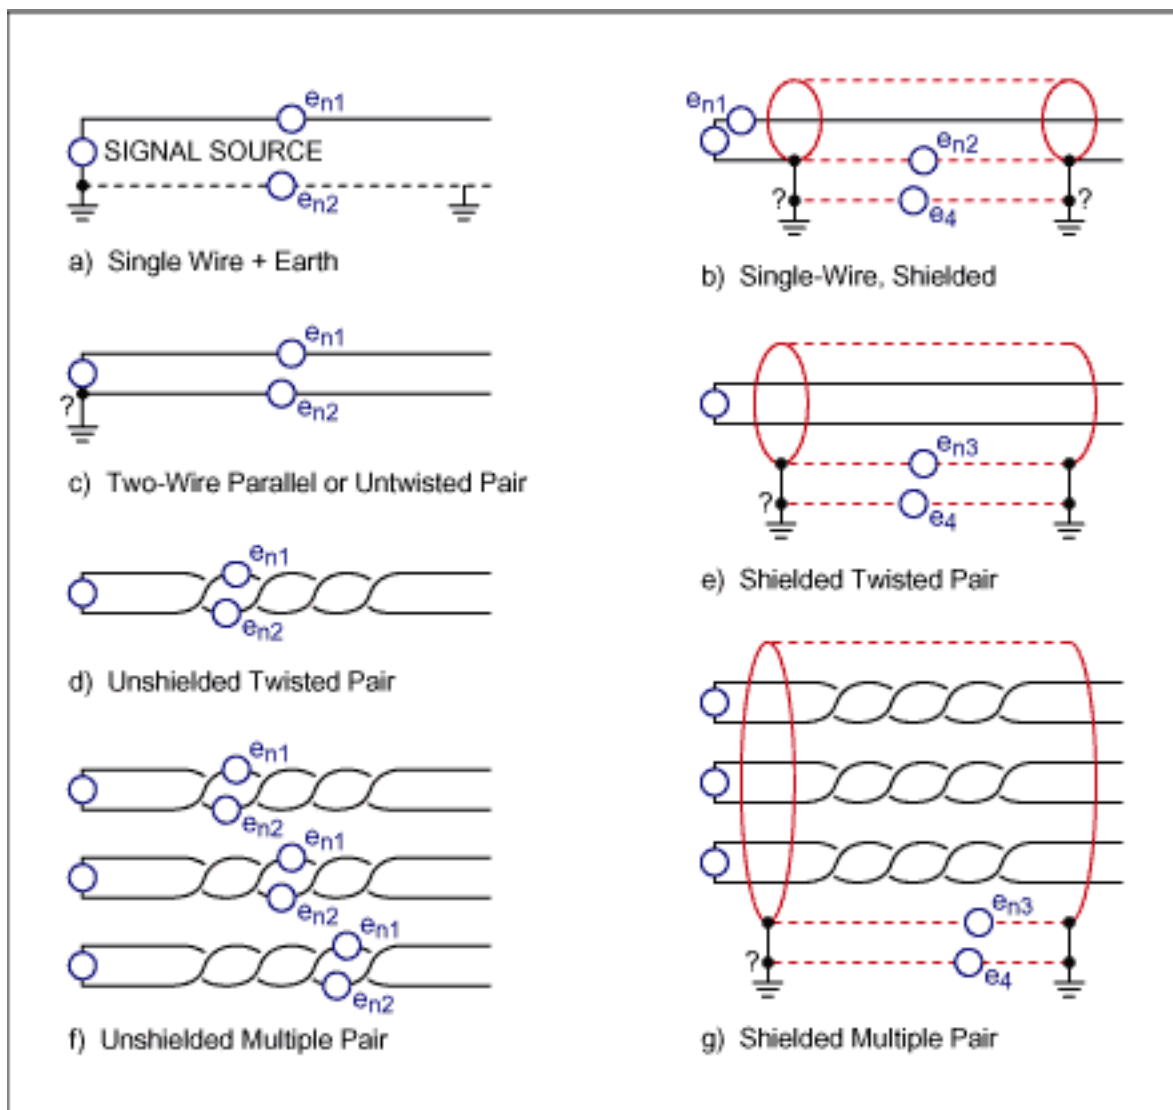

Figure 2. These transmission-cable configurations show the locations of possible noise sources.
Noise signals can appear in a cable for several reasons: capacitive coupling of nearby electric fields (E); inductive coupling of local magnetic fields (M); electromagnetic coupling of radio signals in space (EM); and conduction through intentional or sneak circuit paths (C). The coupled signal appears as an additional signal in series with the line or lines (**Figure 2**). **Table 2** lists the type and origin of potential noise sources in cables. Twisted-pair lines intercept coupled signals equally, so the incident signals appear only as common-mode signals. Twisted-pair lines are said to be balanced if the impedances connected from each line to the local common are identical.